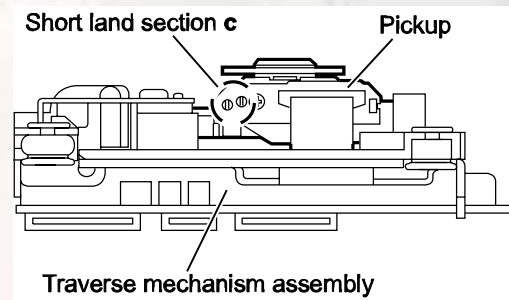

Fig.5
3.2.3 Removing the DVD servo board (See Figs.5 and 6)
- (1) From the side of the traverse mechanism assembly, solder the short land sections **c** on the pickup. (See Fig.5.)
- Solder the short land sections **c** on the pickup before disconnecting the card wire from the connector **CN101** on the DVD servo board. If the card wire is disconnected without attaching solder, the pickup may be destroyed by static electricity. (See Figs.5 and 6.)
- When attaching the DVD servo board, be sure to remove solders from the short land sections **c** after connecting the card wire to the connector **CN101** on the DVD servo board. (See Figs.5 and 6.)
3.2.4 Removing the pickup (See Figs.5,7 to 9)
- From the side of the traverse mechanism assembly, solder the short land sections **c** on the pickup. (See Fig.5.)
- Solder the short land sections **c** on the pickup before disconnecting the card wire from the connector on the pickup. If the card wire is disconnected without attaching solder, the pickup may be destroyed by static electricity. (See Figs.5 and 7.)
- When attaching the pickup, be sure to remove solders from the short land sections **c** after connecting the card wire to the connector on the pickup. (See Figs.5 and 7.)
3.2.5 Attaching the pickup (See Figs.5,7 to 10)
- (4) Remove solders from the short land sections **c** after connecting the card wire to the connector on the pickup. (See Figs.5 and 7.)